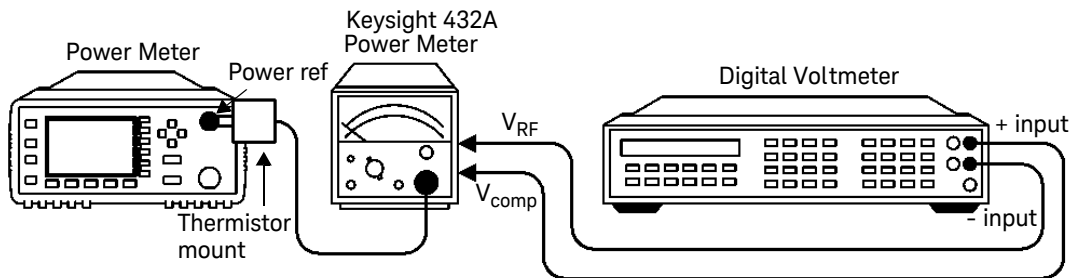

Figure 3-3 Adjustment Setup
- 2 Round off the DVM reading to two decimal places and record this value as the internal bridge resistance (R) of the test power meter (approximately 200 Ω).
- 3 Connect the equipment as shown in Figure 3-3. The leads should be isolated from ground. Ensure that the power reference oscillator is off. Ensure that both the power meter under test and the Keysight 432A have been powered on for at least 30 minutes before proceeding to the next step.